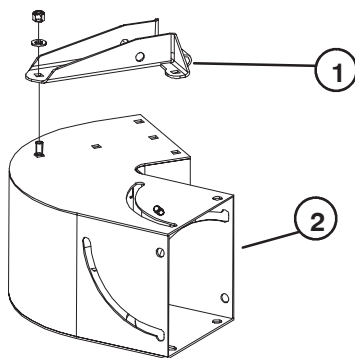

Figure 2
2. Mount pivot assembly to top of chute assembly with (5) 3/8-16 x 7/8" lg. carriage bolts, .406 x .813 flat washers and 3/8-16 locknuts (Fig. 2).